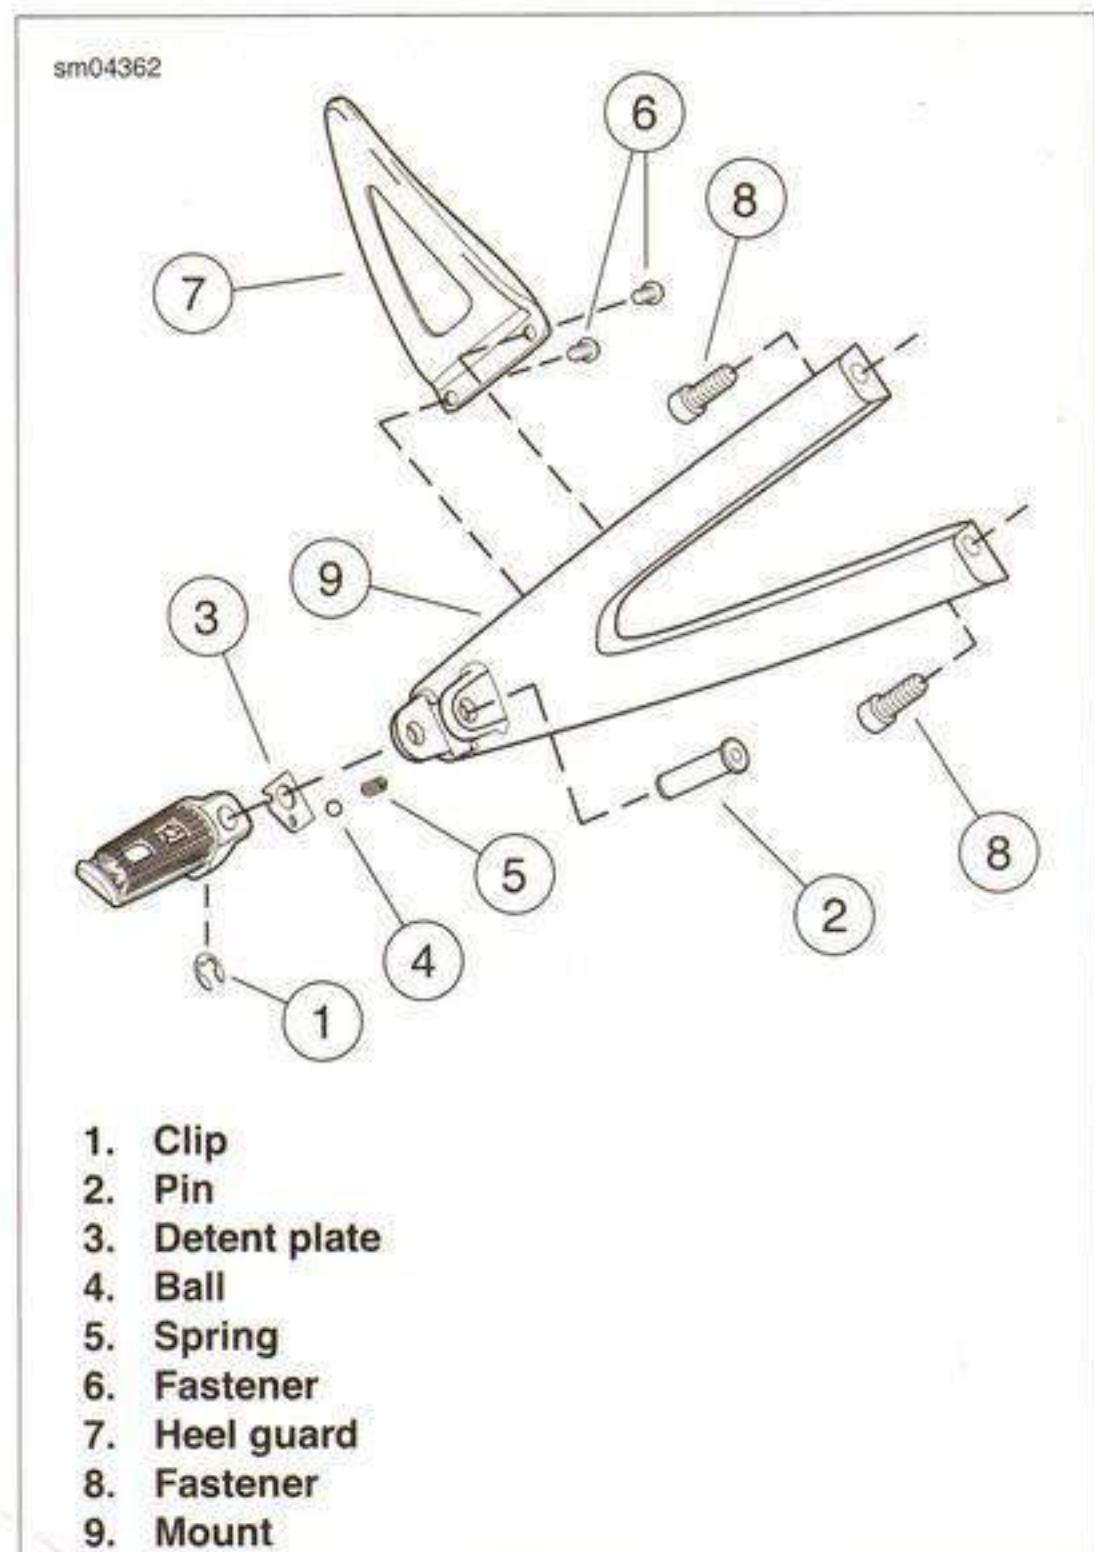

Figure 2-157. Passenger Footpeg Assembly
1. See Figure 2-157. Remove clip (1).
2. Remove footpeg pin (2).
3. Remove footpeg, detent plate (3), ball (4) and spring (5).
1. See Figure 2-157. Remove heel guard fasteners (6) and heel guard (7).
1. See Figure 2-157. Remove footpeg mount fasteners (8).
2. Remove footpeg mount (9).